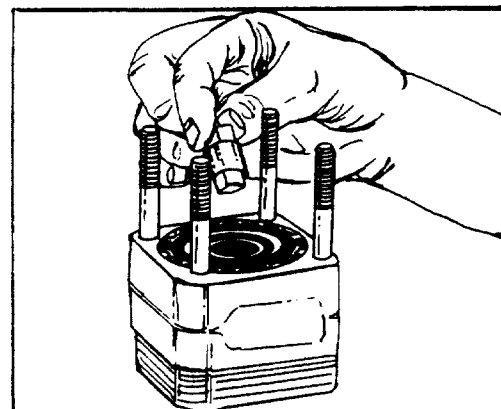

FIGURE 19.
22. Remove the drive link (16) from the unit. See figure 19.